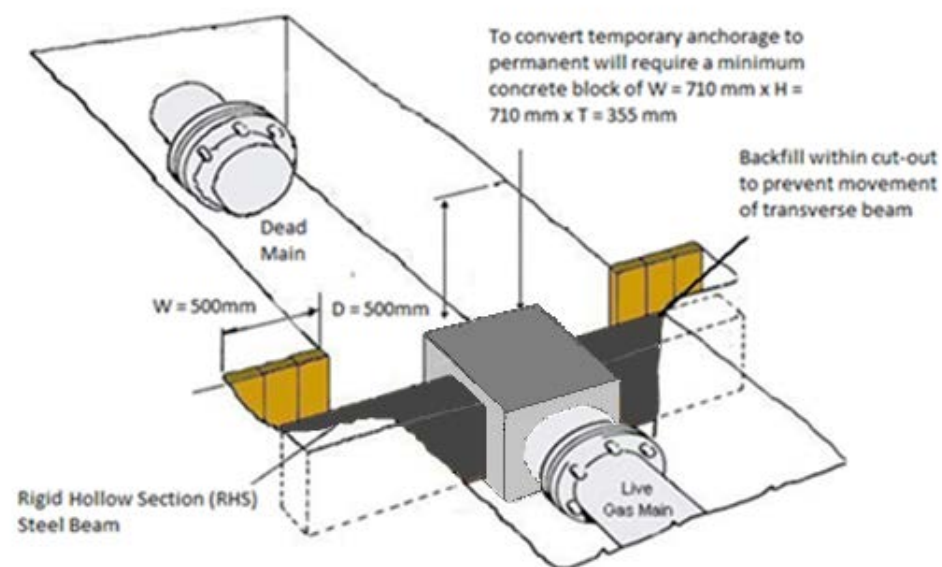

Figure B3-1 Temporary Anchorage to Permanent Anchorage - Model Design 1
The permanent concrete anchor encasing a steel strut or RHS beam (if it's used see Figure B3-2 and Figure B3-1) must be protected against corrosion using approved protection, for example densomastic tape.
2. Using a minimum of 18 mm plywood, create shuttering to the required dimensions for a permanent anchor block – see Figure B3-1 and refer to Table B1-1 if using model designs 2 or 3. If concreting a steel strut refer to Figure B3-2. All these dimensions should be confirmed by your Operational Manager prior to starting.